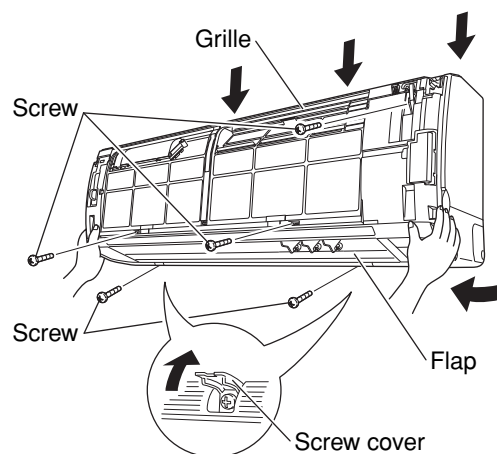

Fig. 17-2
- (2) Remove the 3 screws from the frame. Also remove the 2 screws where the screw covers are open. (Fig. 17-2)
- (3) Press the 3 tabs on the top of the grille to disengage them. (Fig. 17-2)
- (4) Pull the grille towards you to remove it. (Fig. 17-2)